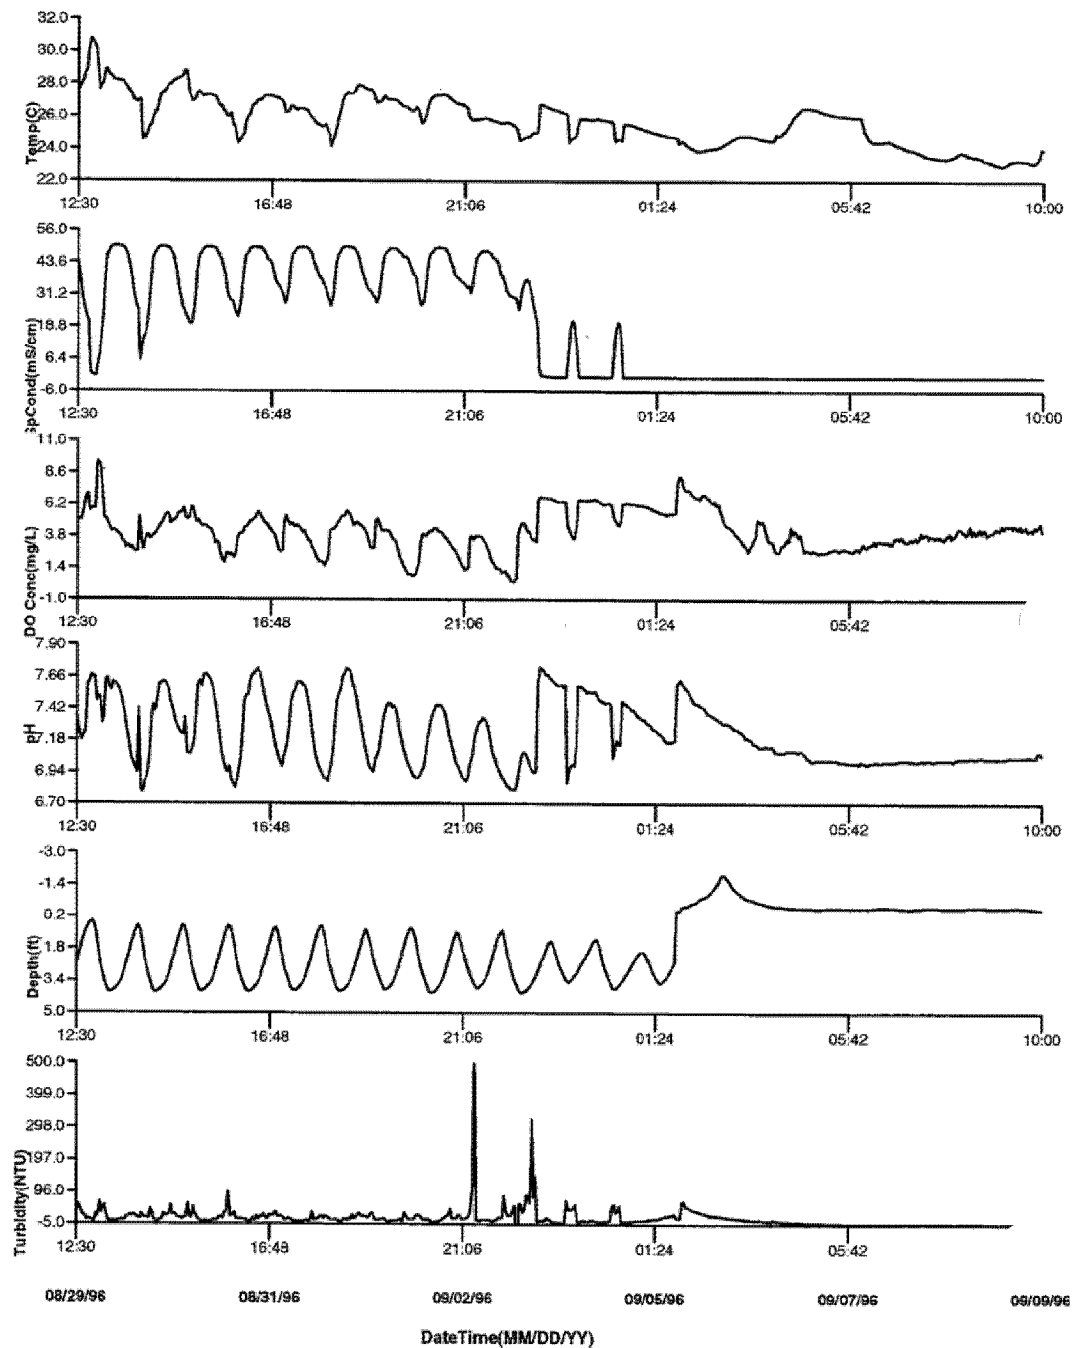
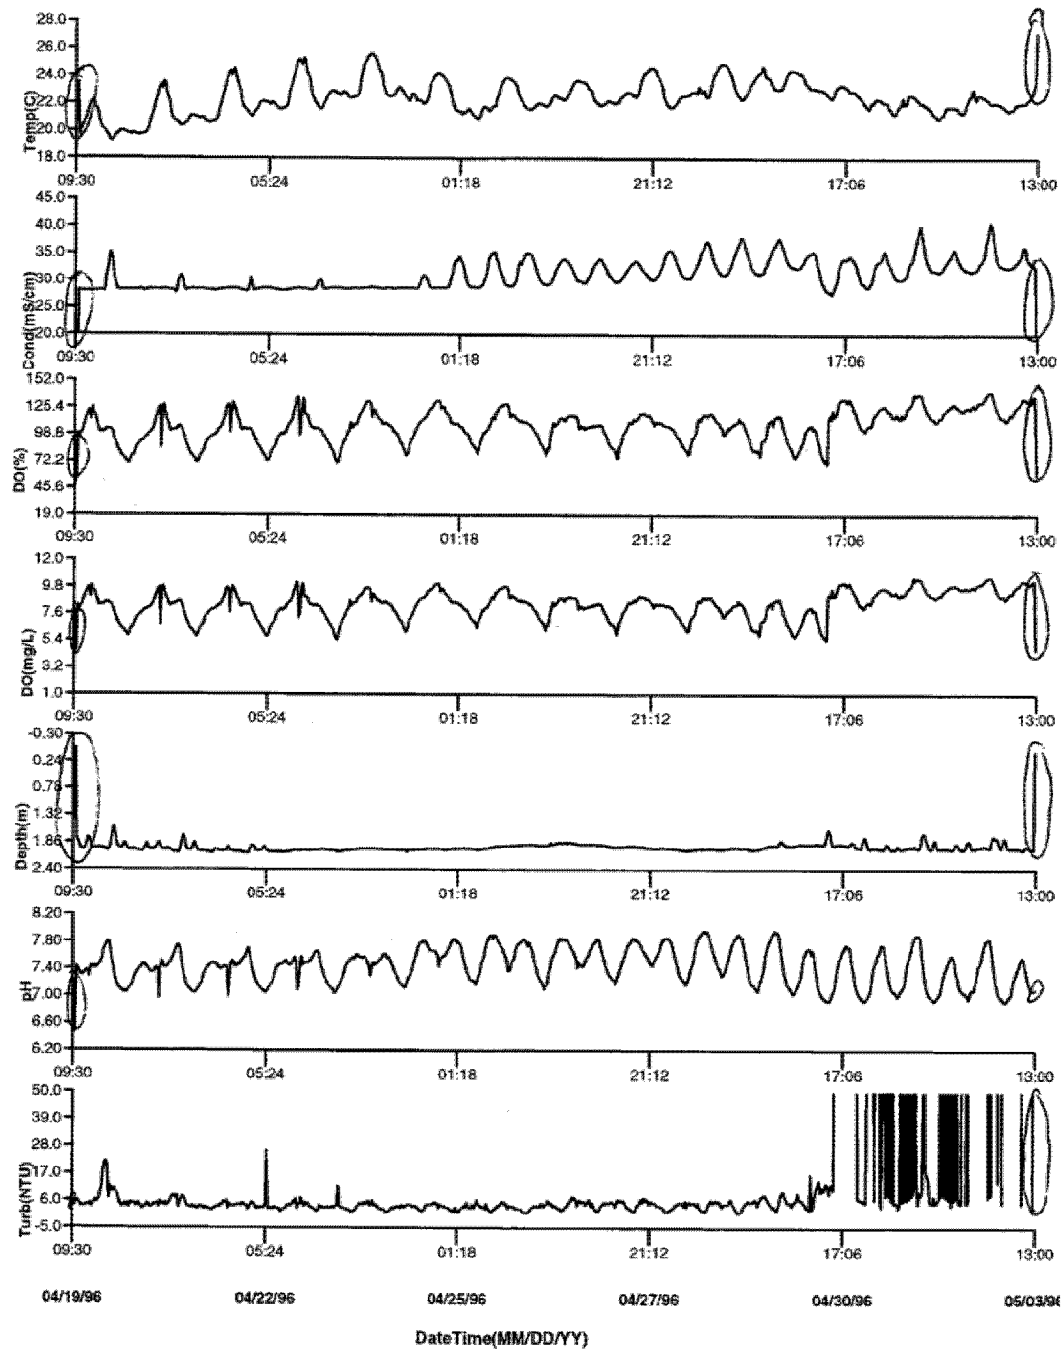

FIGURE 2
FIGURE 4
**Times of pre- and post-deployment when transporting the datasonde:** Figure 2 and the beginning of Figure 4 show that the beginning and end (tails) of data (pre- and post-deployment) are not in range of the other readings. Note that the time on the datasonde is not always the same as what is on your watch, especially during daylight savings. Remember that any data collection including that of the datasondes should be recorded in standard time only NOT daylight savings time.
The last failure symptom is demonstrated in Figure 4. All readings after this type of failure should be eliminated from the SWMP datasonde database.